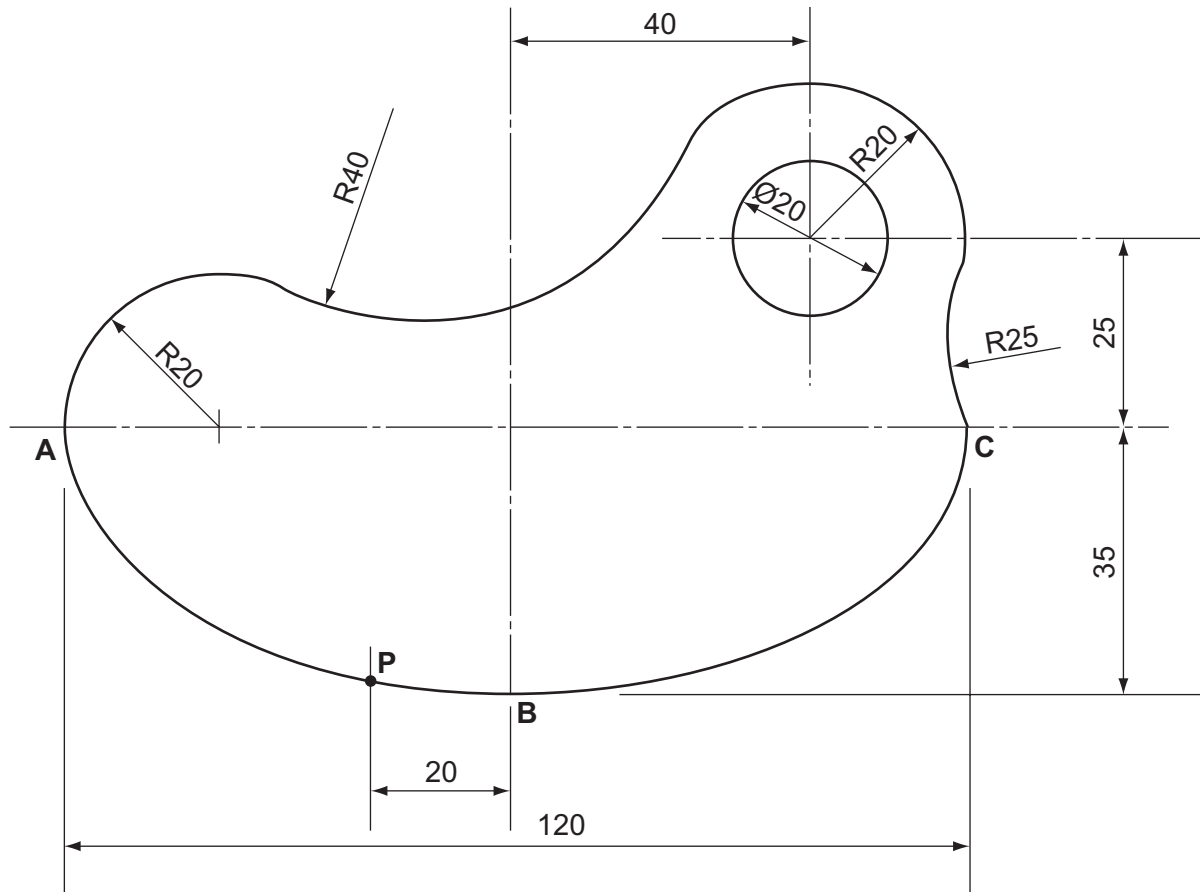

Fig. 1
- 1 The elevation of a catch plate is shown in Fig. 1.